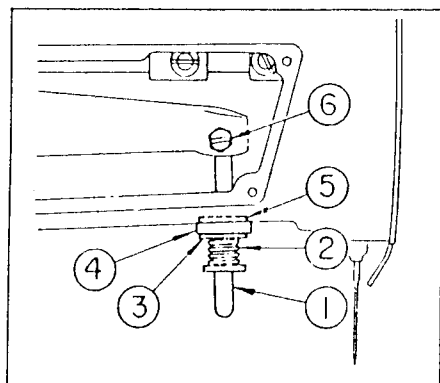

Fig. 4
4) How to install the L-shaped button clamp lifting link (Fig.4)